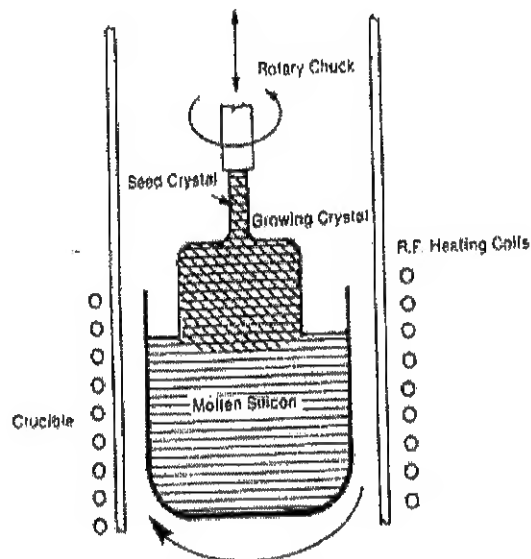

Figure 1(a): Czochralski growth process for single crystal doped silicon.
- (a) Czochralski (CZ) technique is the main technology used in the growth of monocrystalline silicon (Si) ingot for microelectronic applications. Based on the diagram in Figure 1(a) below, describe the CZ monocrystalline growth process for a doped Si ingot. Explain how doping uniformity, crystal perfection and diameter control for the doped Si ingot can be achieved. [10 marks]
- (b) A silicon (Si) ingot doped with boron (B) is measured for the top wafer slice of the ingot using four-point probe with probe spacing of 1 mm. The voltage/current (V/I) reading obtained is 0.32Ω . The resistivity versus doping concentration curves for n-type and p-type Si are given in Figure 1(b) and the segregation coefficient for the B dopant is 0.8. Determine the doping concentration of the wafer taken from the position corresponding to 40 % of the initial charge solidified. [6 marks]